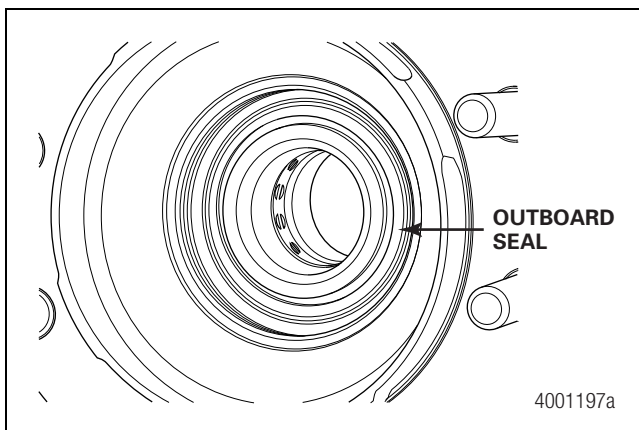
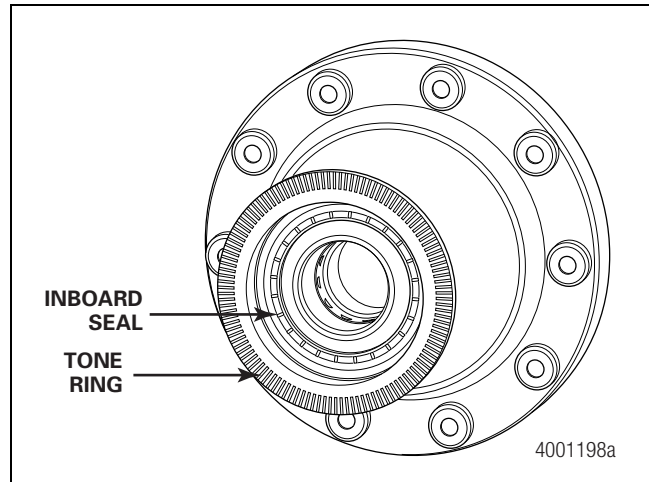

Figure 13.16
Figure 13.17
- A. There is no visible damage to the inboard or outboard seals and the bearings have not become unseated. Figure 13.16 and Figure 13.17.
- B. The tone ring teeth are not damaged and there are no broken or missing teeth on the tone ring. Figure 13.17.